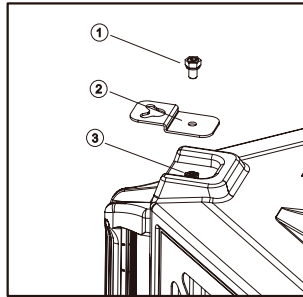

Fig. 3
1. Use the M6 screws to install 2 mounting brackets on to the equipment (Fig. 3).